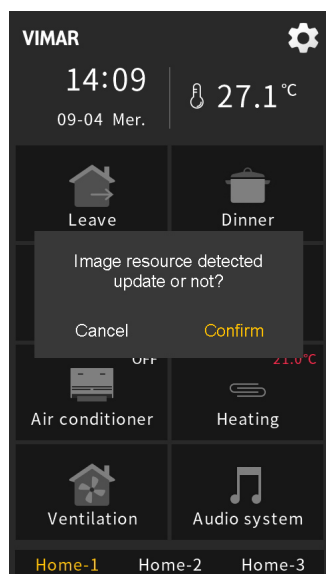

Fig. 5.1
2. Insert Micro SD card into the device, if Micro SD card meet the above settings, and there are valid pictures, then pop up a window to request update, as shown in Fig. 5.1;